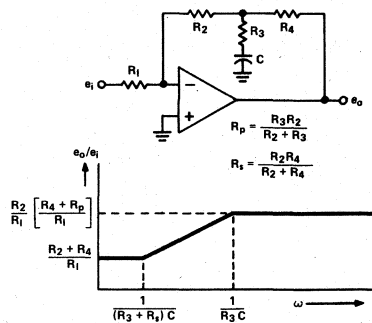

Figure 3. DC Feedback Minimizes Output Offset for AC Applications
1. *Is DC coupling required?* If DC information is of no consequence, then the offset drift errors are not usually important and a capacitor can be used if necessary to block the output DC offset. Your only concern here is that DC offset at the output does not become so large, as might be the case with a high gain stage, that the output is saturated or the dynamic swing for AC signals is limited. One way to circumvent the latter problem is to use feedback to limit the gain at DC as shown in Figure 3. The gain of these circuits can be small at DC but large at high frequencies.